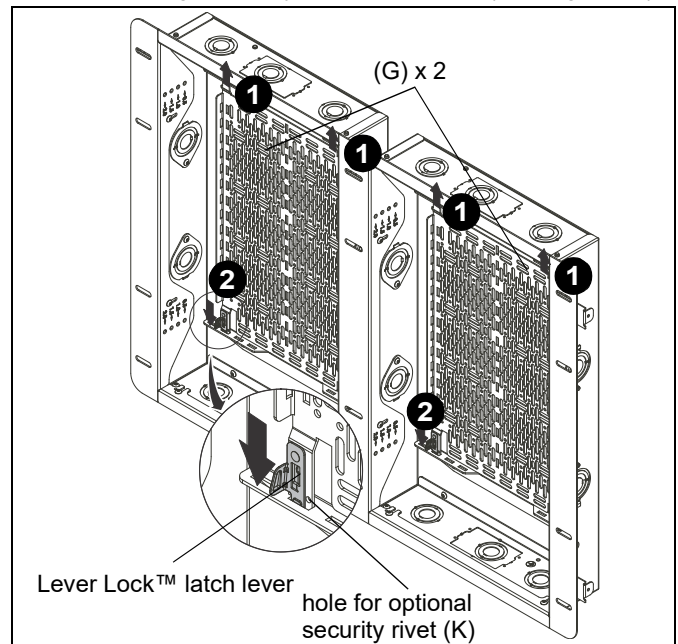

Figure 16
1. Slide Lever Lock™ backplanes (G) into slots on top side of boxes. (See Figure 16)
2. Slide Lever Lock™ backplanes (G) into slots on opposite side, making sure they "click" into place. (See Figure 16)